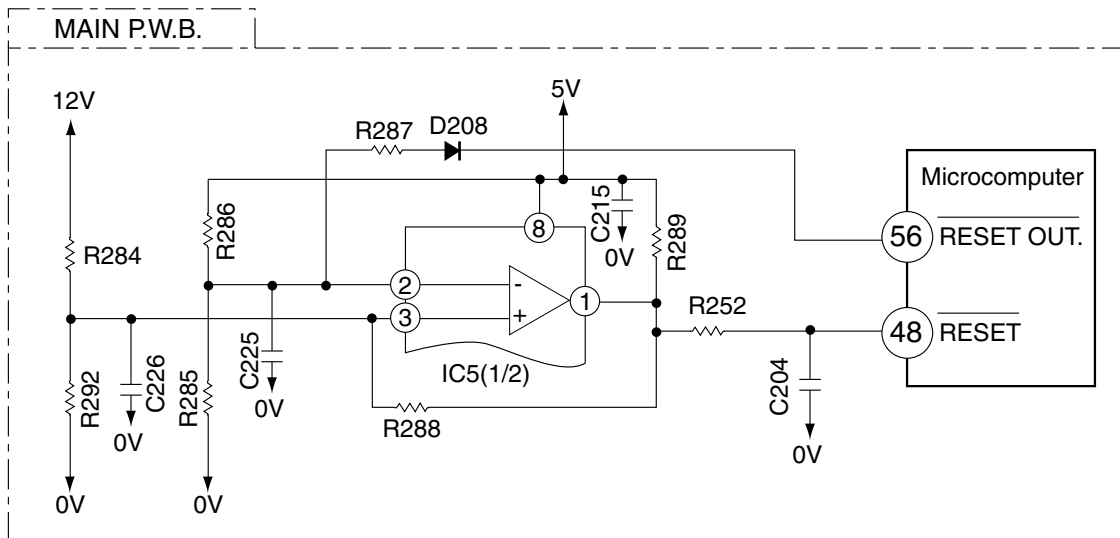
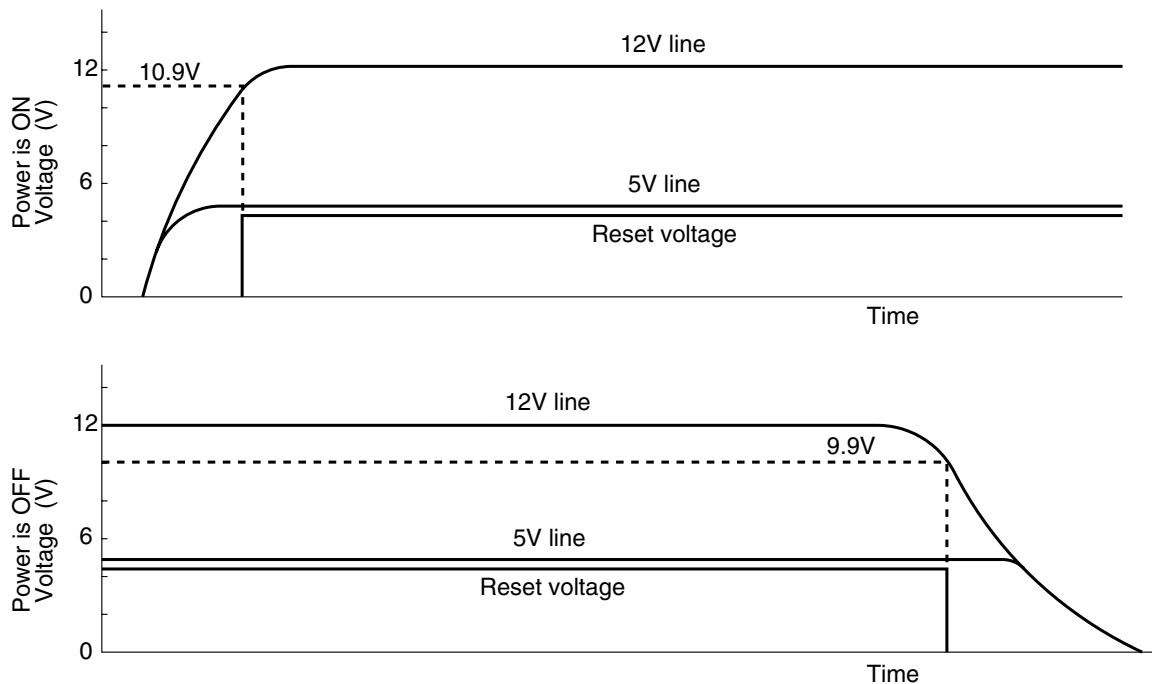

Fig. 6-7
Fig. 6-8
The reset circuit initializes the microcomputer program when Power is "ON" from "OFF". Low voltage at pin ④ resets the microcomputer, and HI activates the microcomputer. Fig. 6-7 shows the reset circuit and Fig. 6-8 shows waveform at each point when power is turned on and off.